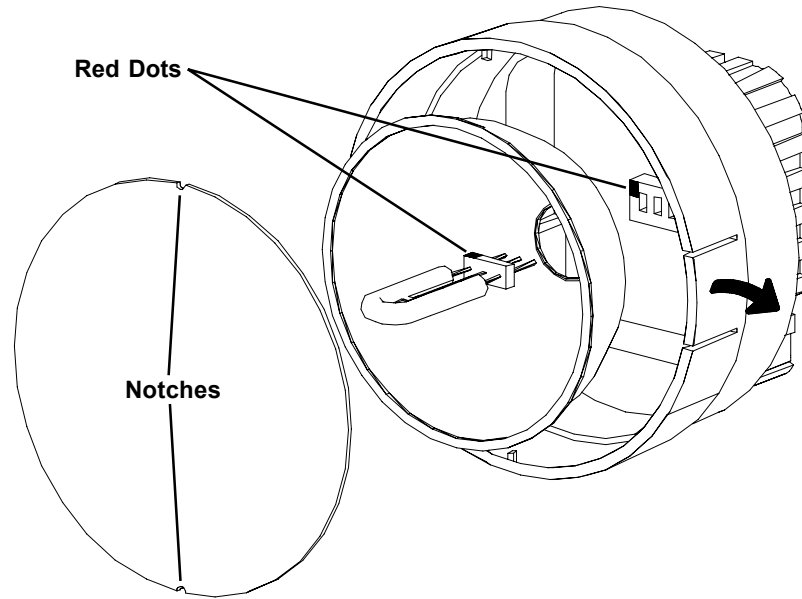

Figure 5 Lamp Replacement
- The lamps are polarized and must be put into the socket matching polarity. **Using a lint free cloth, match up the red dot on the plug with the red dot on the socket and gently rock the lamp back and forth while pushing it into place (see Figure 5). Make sure the lamp is in straight and centered in the reflector hole.**
- Reinstall the reflector and then position the front lens in place matching up the notches on the lens with the two small tabs on the housing to prevent lens rotation (see Figure 5). Push the tabs on the front rim outward and press the lens into place.